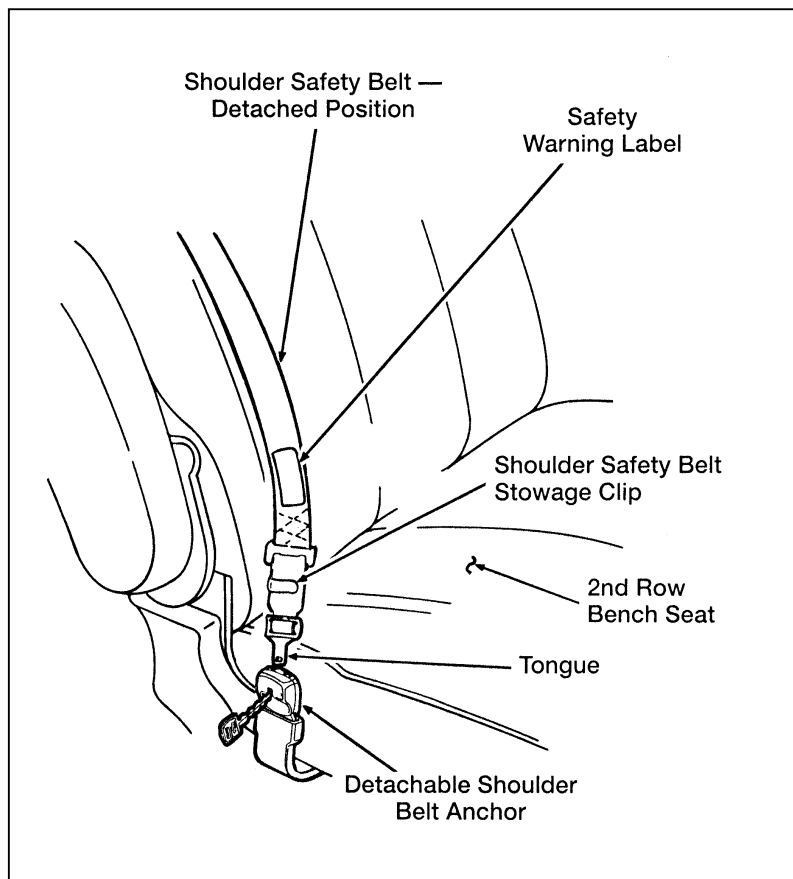

Figure 1: Second row detachable anchor — detached position
1. (For second row bench seat only) Disengage the tongue portion of the lap/shoulder belt from the detachable anchor assembly by inserting a key or small screwdriver into the slot provided on the detachable anchor (see Figure 1). When this shoulder belt assembly is free of the seat, allow the retractor to wind up the slack in the belt.